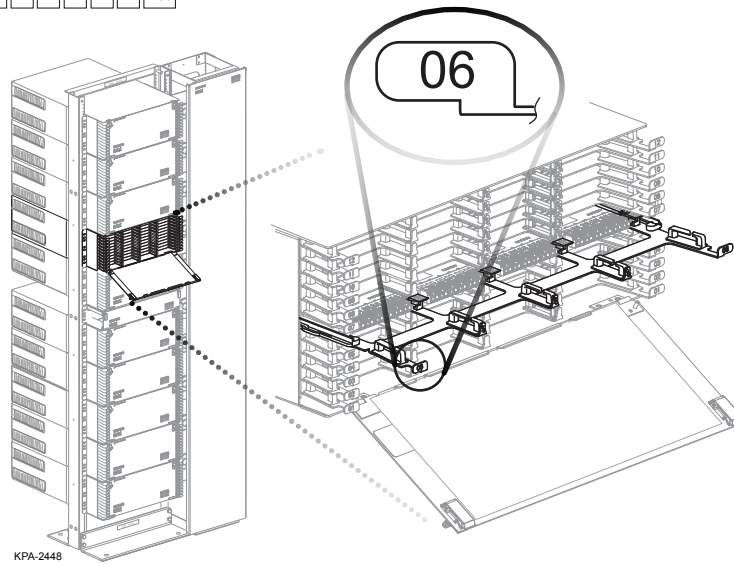

Figure 28 — Tray Label Location
Step 3: Tray Location (Figure 28)